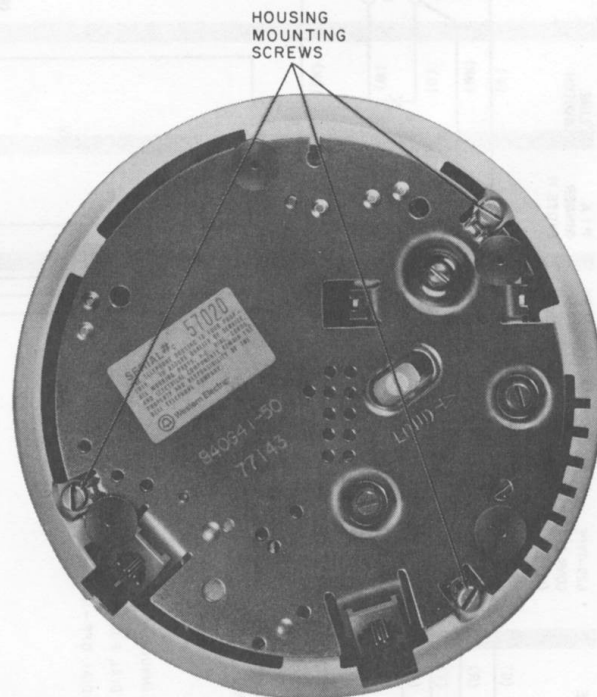

Fig. 2—940C Telephone Set, Bottom View
2.01 The 940A, 940B, and 940C rotary dial equipped telephone sets are new DESIGN LINE telephone sets being made available to the customer. The customer buys the housing, handset, and decorative features from the telephone company and the telephone company retains ownership of the transmission and signaling components which are mounted on a removable base (Fig. 2) and incorporated in the handset.
(1) Remove handset cord from handset and telephone set base.
(2) Remove mounting cord from telephone set base and connecting block or adapter.
(3) Remove three housing mounting screws located on bottom outer edge of the baseplate (Fig. 2).
(4) Remove upper and lower housing by lifting them off.
(5) After removing telephone company-owned components reassemble upper and lower housings using the three housing mounting screws (Fig. 2).